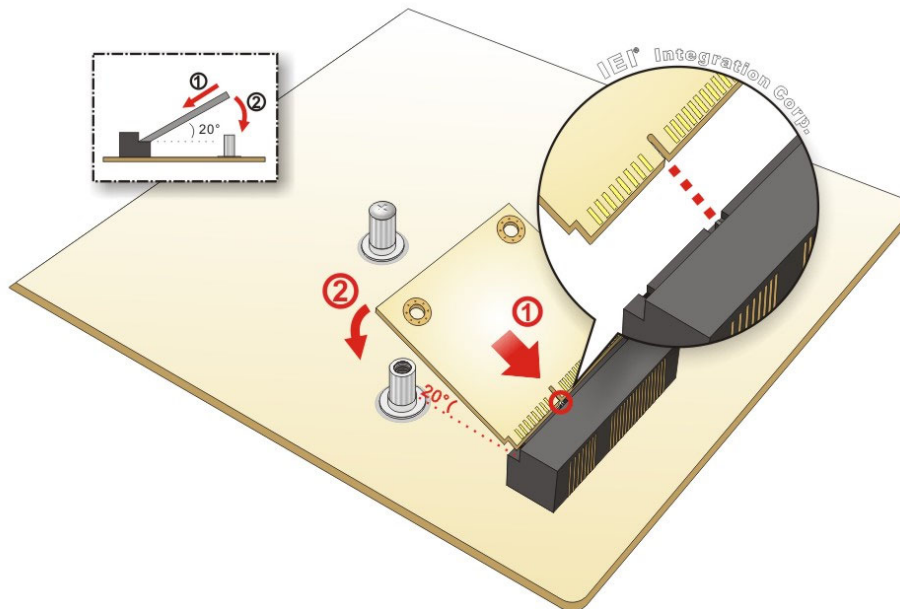

Figure 4-12: Inserting the Half-size PCIe Mini Card into the Slot at an Angle
Step 3: **Insert into the socket at an angle.** Line up the notch on the card with the notch on the slot. Slide the PCIe Mini card into the slot at an angle of about 20° (Figure 4-12).